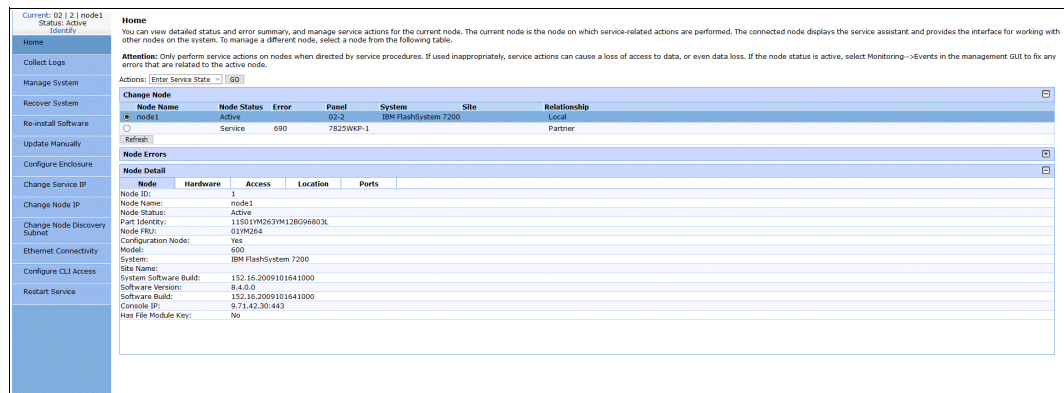

Figure 13-10 Service Assistant Tool post-node removal
- After a brief period, check the SAT, which shows that the node canister that you removed is in the service or candidate status, as shown in Figure 13-10.